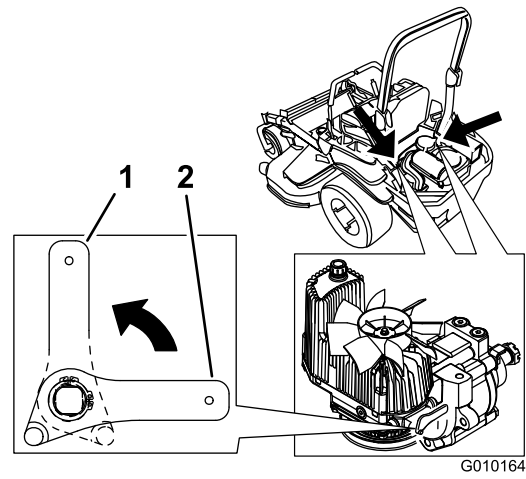

Figure 37
4. Rotate the release valve levers horizontally to run the machine (Figure 37).
2. Rotate the release valve levers vertically to push the machine. This allows hydraulic oil to by-pass the pump enabling the wheels to turn (Figure 37).